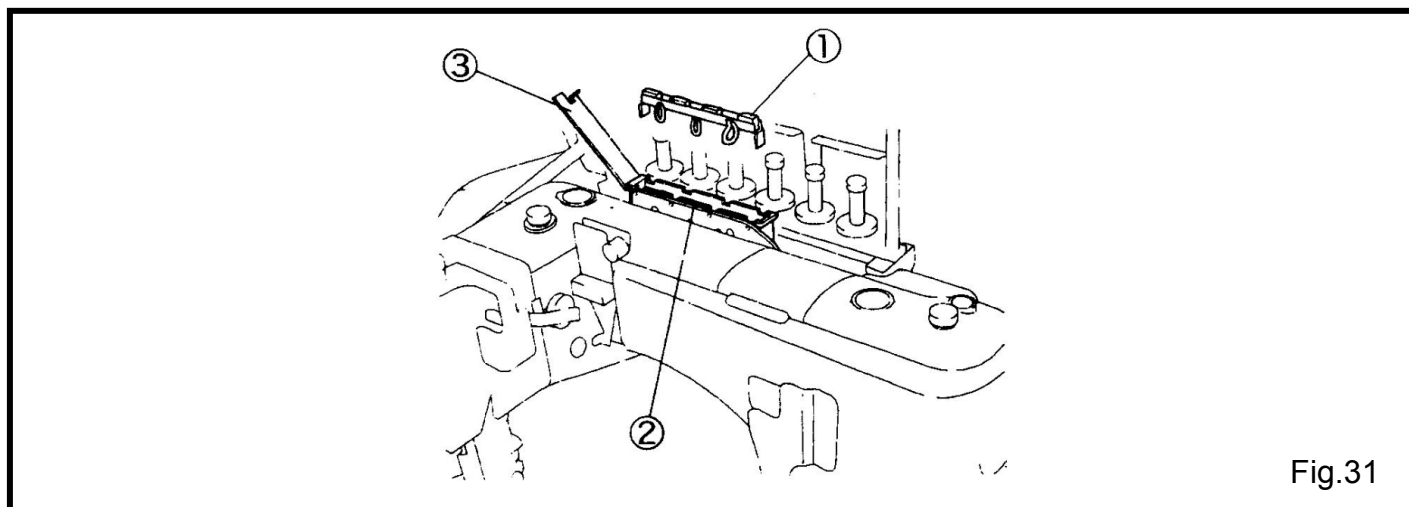

Fig.31
(Fig.31)
Fix the felts① included accessories into the SP tank② when using.(Fig.31)